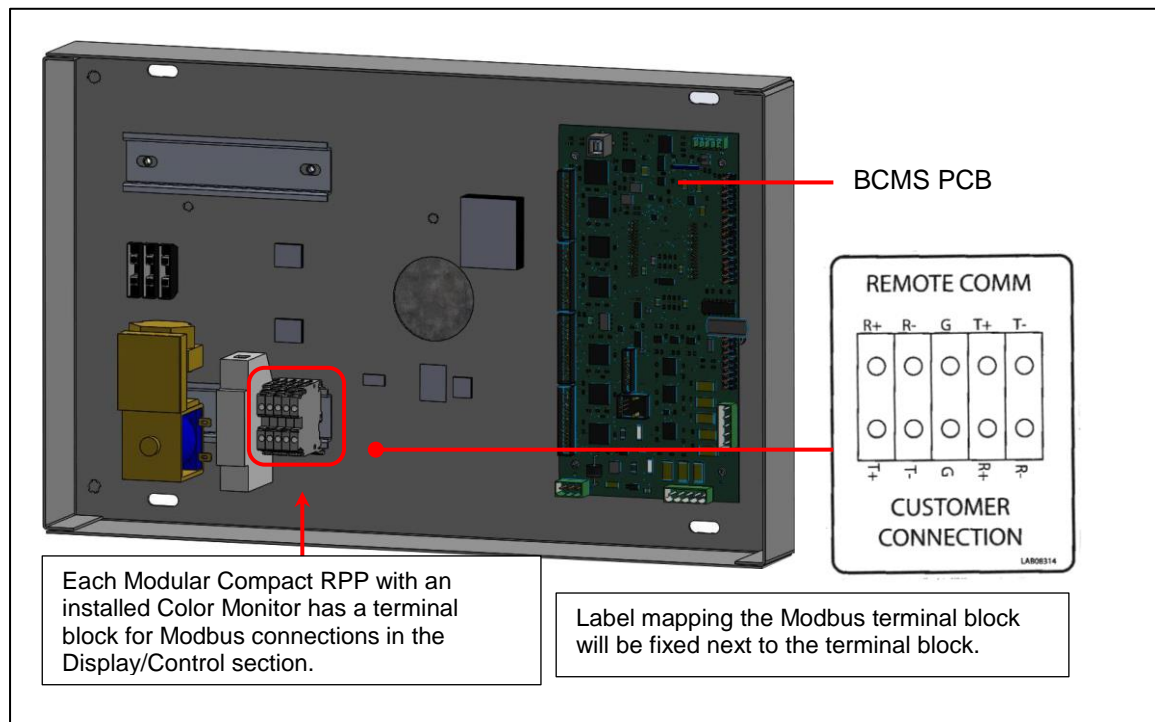

Figure 10 Modbus Terminal Block in Display/Control Compartment
Each Modular Compact RPP has (1) BCMS PCB that can monitor (2) panelboards. The BCMS PCB is wired to the Modbus terminal block on its Modular Compact RPP unit (Figure 10).